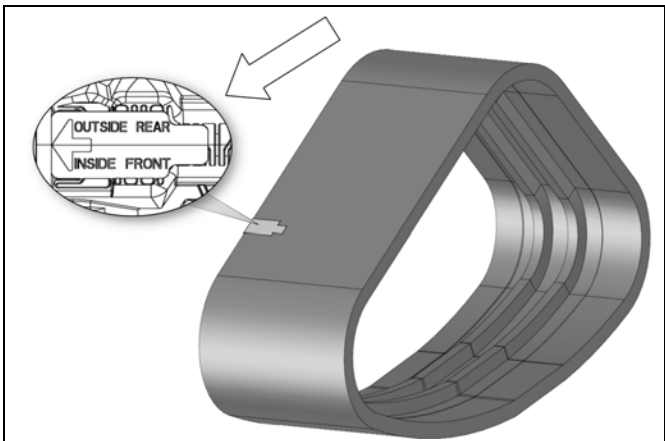

Figure 34.
- Follow the indication molded on the track to install the track in the right direction. See Figure 34.